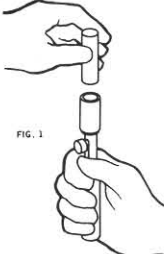

FIG. 1
2. INSERT NOZZLE END OF SIGNAL INTO LAUNCHER FIRMLY UNTIL SIGNAL BOTTOMS OUT (FIGURE 1).